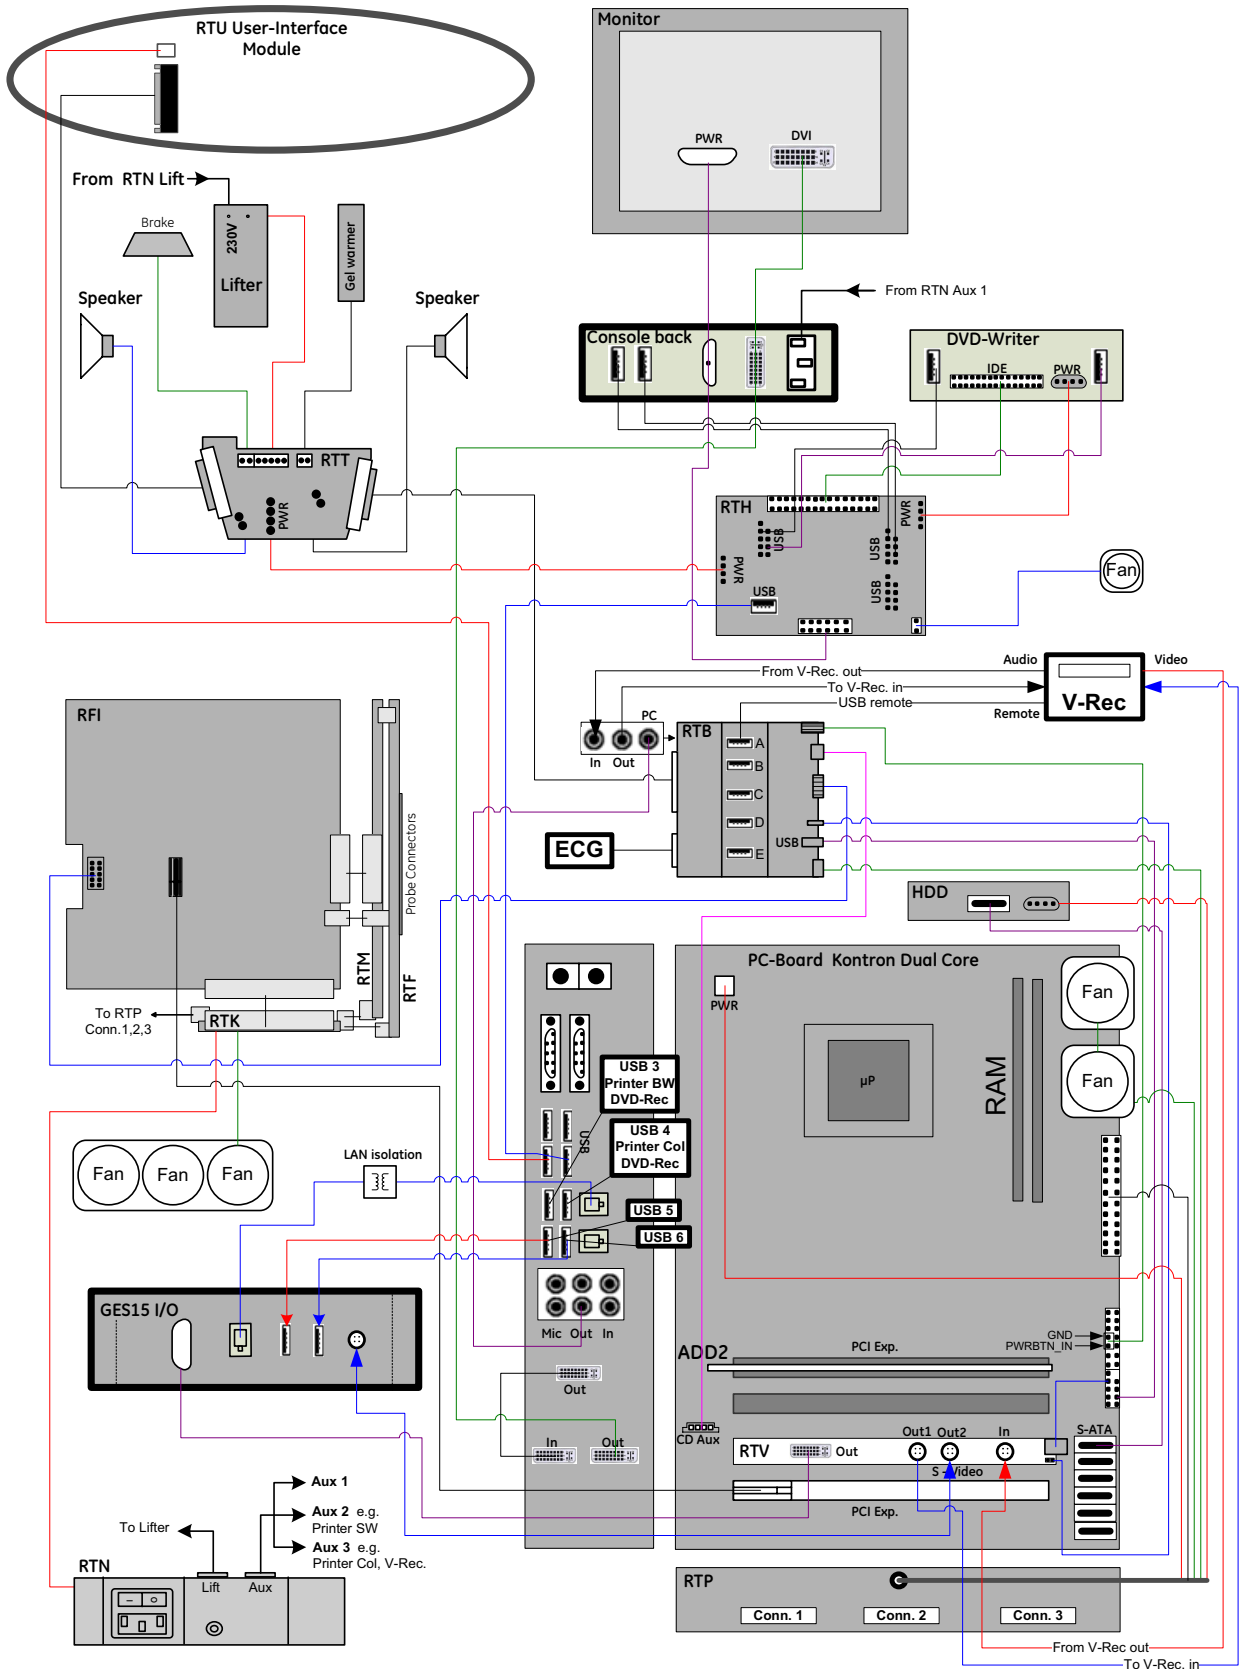

Figure 5-14 Voluson E6 (BT09): Internal I/O - KONTRON Dual-core PC-Motherboard
- “Kontron Dual-core” PC Motherboard is installed, see: Figure 5-14 on page 5-38.